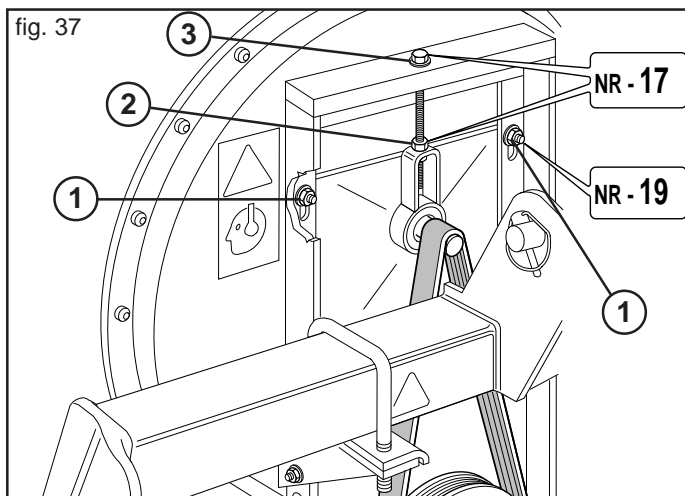

fig. 37
- Loosen the screws (1, Fig. 37);
- Loosen the nut (2, Fig. 37);
- Tension the belt by tightening the screws (3, Fig. 37);